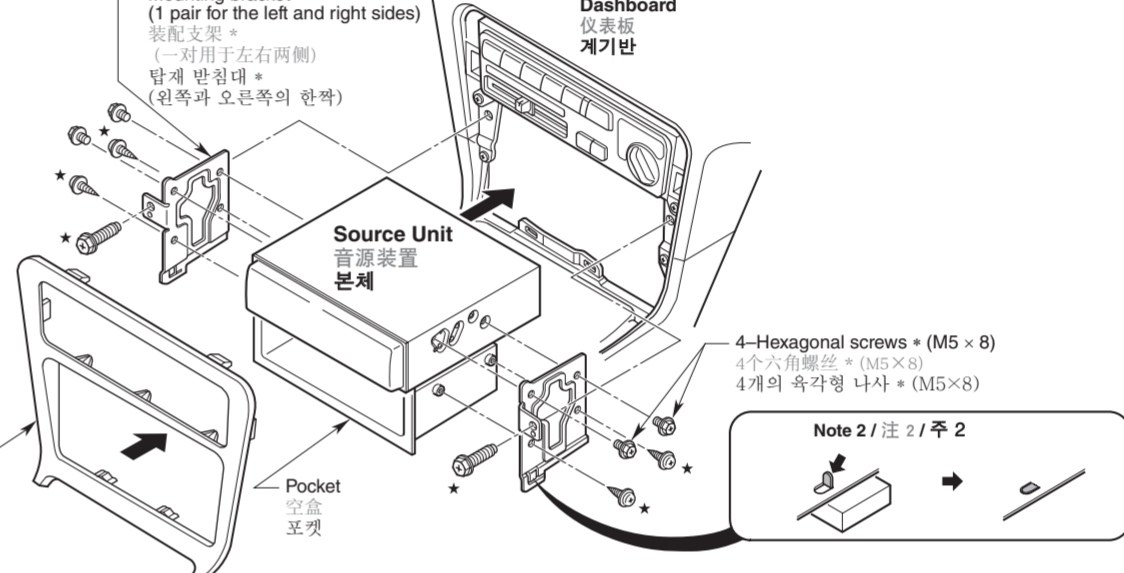

Figure 7 / 图 7 / 그림 7
This unit is designed for fixed installation in the dashboard. If the vehicle is equipped with a factory-installed radio, install the source unit with the parts and screws marked (★) (Figure 7). If the vehicle is not equipped with a factory-installed radio, obtain an installation kit to install the source unit in the following procedure.
本机用于固定安装在仪表板上。如果汽车装备有出厂时安装好的收音机, 请用带星号(★)的零件和螺丝安装音源装置(图7)。如果汽车不装备出厂时安装好的收音机, 请用安装工具按照以下步骤安装音源装置。
- 2. Secure the mounting brackets to the chassis as shown in Figure 7. Holes are pre-tapped for TOYOTA and NISSAN vehicles; modification, such as drilling new holes, of the mounting brackets may be required for other models.
如图7所示, 将装配支架固定到底盘。丰田和日产汽车具有现成的安装用孔; 其他车型可能需要改造装配支架, 如钻出新孔等。